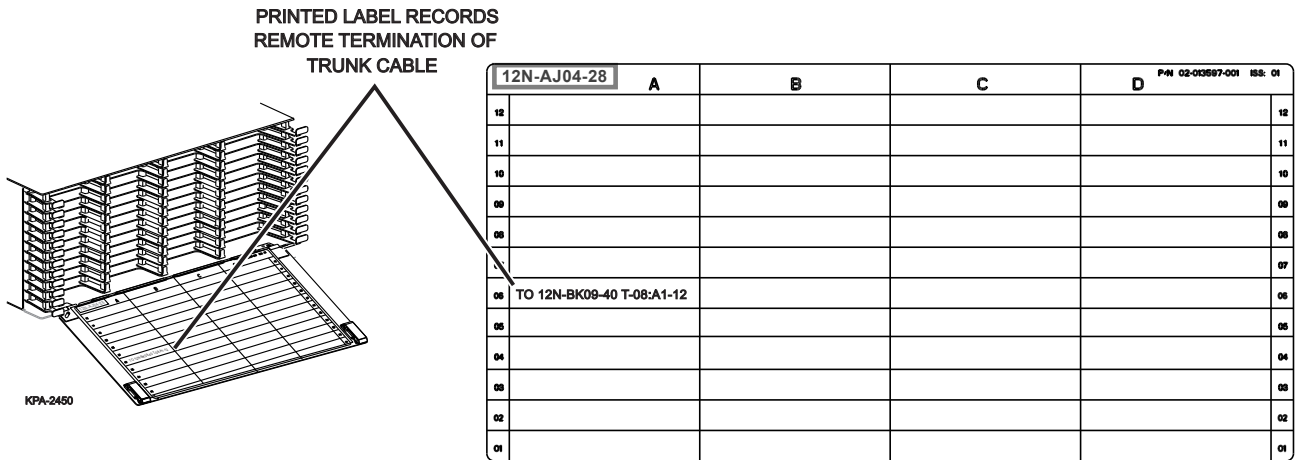
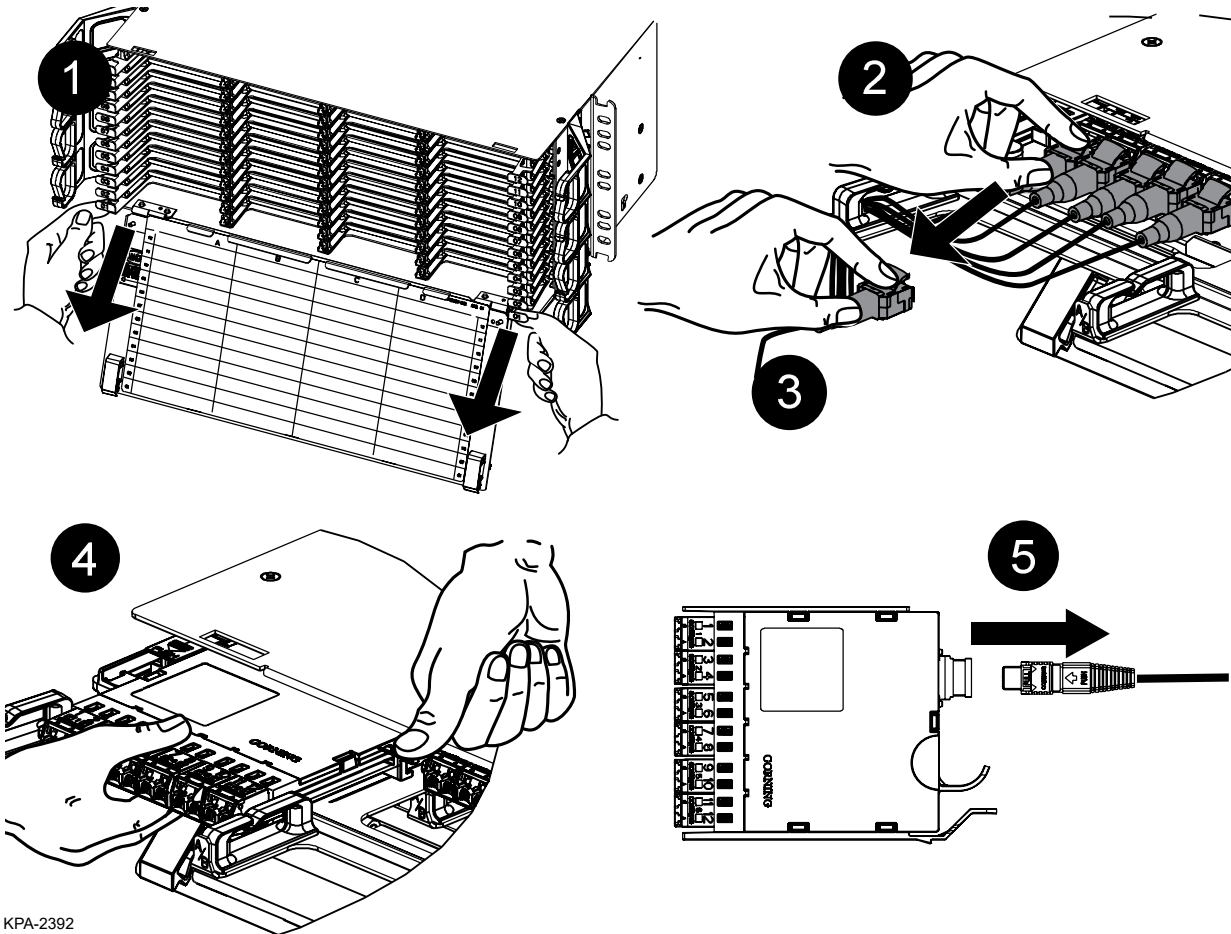

Figure 30 — Print Remote Termination Label
Figure 32 — Replace EDGE Module
### Step 5: Documentation (Figure 30)
**Step 2:** Press latch on LC connector and pull connector out (Figure 32). If jumper is equipped with MTP® connector, simply grasp connector body and pull connector out of the adapter. (**NOTE:** only LC connectors shown in Figure 30.)